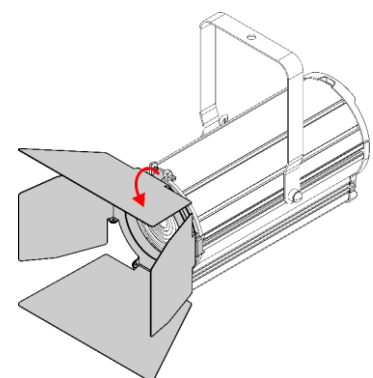

Fig. 10
- 03) Pull the **color frame clip (02)** downwards to release the **spring-loaded screw (01)** (see Fig. 10). The barndoor will be locked in position.